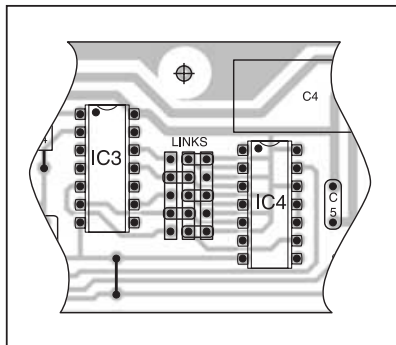

Fig.4. Setting the "count" using the bridging links
require links 2(2) and 4(8) to be on, as shown in Fig.4.